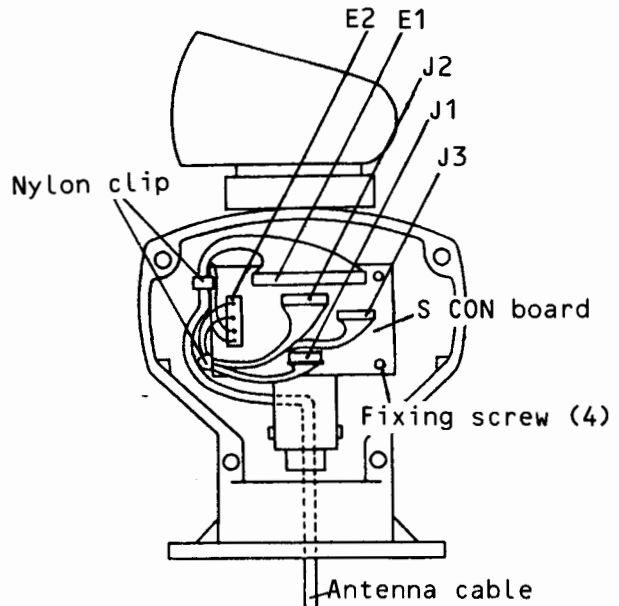

Fig. 5.1.3 Replacement of S CON Board
The S CON (scanner connection) board interfaces the antenna and display, as well as other boards in the antenna unit. It also contains the SHF and AZI reforming circuits. As shown in Fig. 5.1.3, following connectors are mounted on the board for transferring various signals.
- (2) Referring to Fig. 5.1.3, remove all wires of E1 and E2. Disconnect connectors J1, J2, and J3, as well.
- (3) Remove all nylon clips for cable and binds of motor wires.
- (4) Remove four fixing bolts for the bracket and take out the bracket
- (5) Detach the motor from the bracket by removing four fixing screws.
- (6) When replacing the motor, detach the photo-coupler of AZI pulse generator by removing two fixing screws of the cover, and then mount the generator to the new motor.
- (7) Take reverse steps of the above procedure for assembling new motor. In order to fix the motor at correct position, insert a sheet of paper between the main gear and pinion before tightening the fixing bolts of the bracket. Carefully adjust the gearing so that the paper is taken out by rotating the aerial by hand, and then securely fix the bolts.